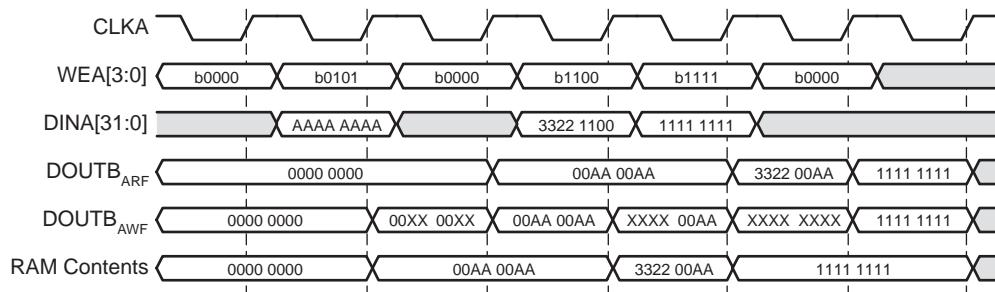

*Figure 3-15: Write-Write Collision Example*
- **Using Byte-Writes:** When using byte-writes, memory contents are not corrupted when separate bytes are written in the same data word. RAM contents are corrupted only when both ports attempt to Write the same byte. Figure 3-15 illustrates this case. Assume ADDRA = ADDRB = 0.